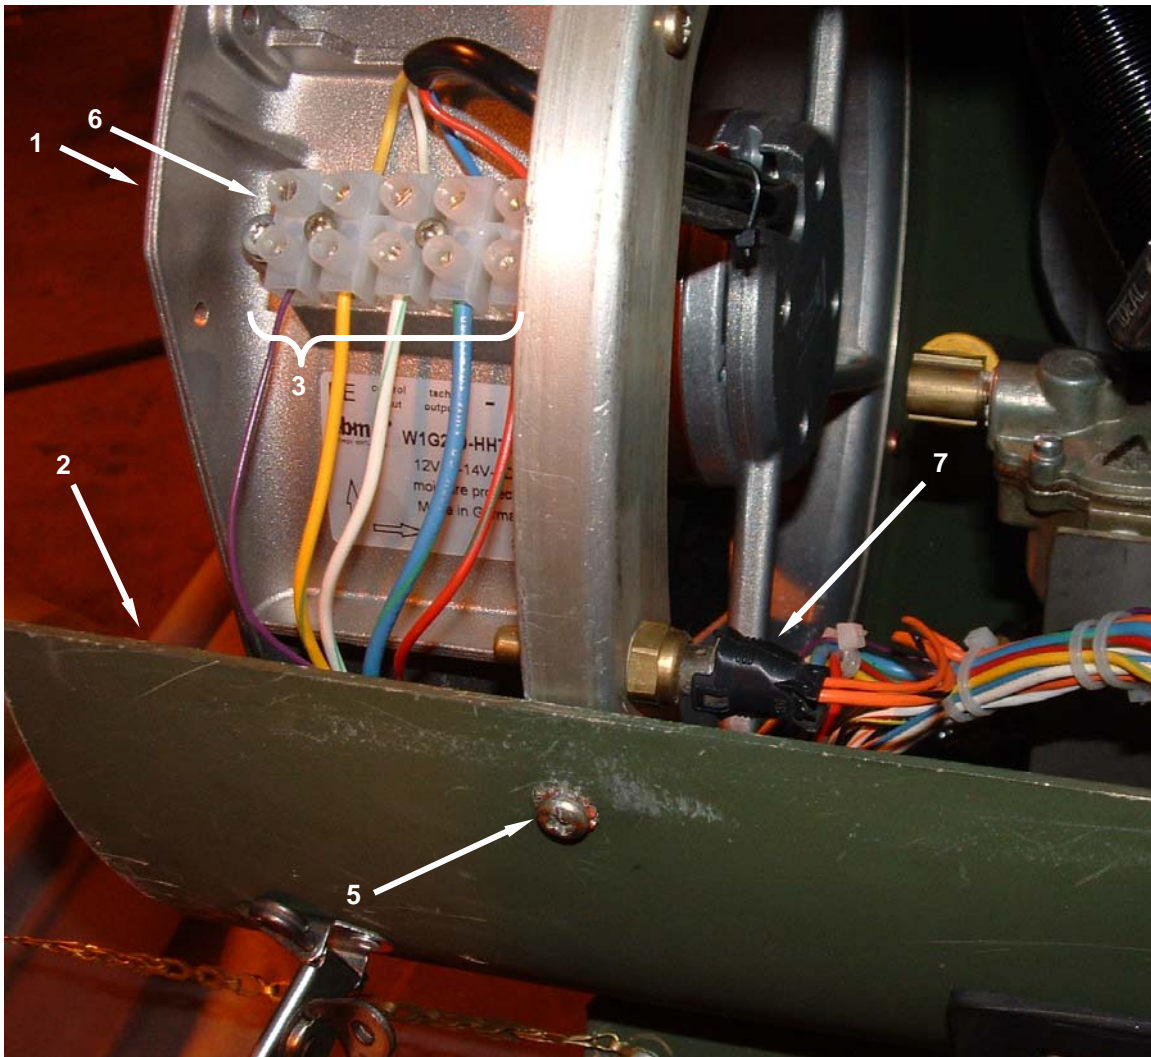

Figure 10. Replace the Electronic Box Assembly, Complete with Wire Harness – Install the Heated Air Blower.
21. Position the heater air blower assembly (**Figure 10, Item 1**), over the three holes on the lower assembly (**Figure 10, Item 2**).
22. Pull wires (**Figure 10, Item 3**) through the heated air blower assembly (**Figure 10, Item 4**).
23. Install the heated air blower assembly (**Figure 10, Item 4**) to lower housing assembly (**Figure 10, Item 2**), and retain with three screws (**Figure 10, Item 5**).
24. Place wires (**Figure 10, Item 3**) inside the air blower assembly connectors (**Figure 10, Item 6**); tighten terminal screws to secure.
25. Reconnect inlet air temperature sensor (**Figure 10, Item 7**).